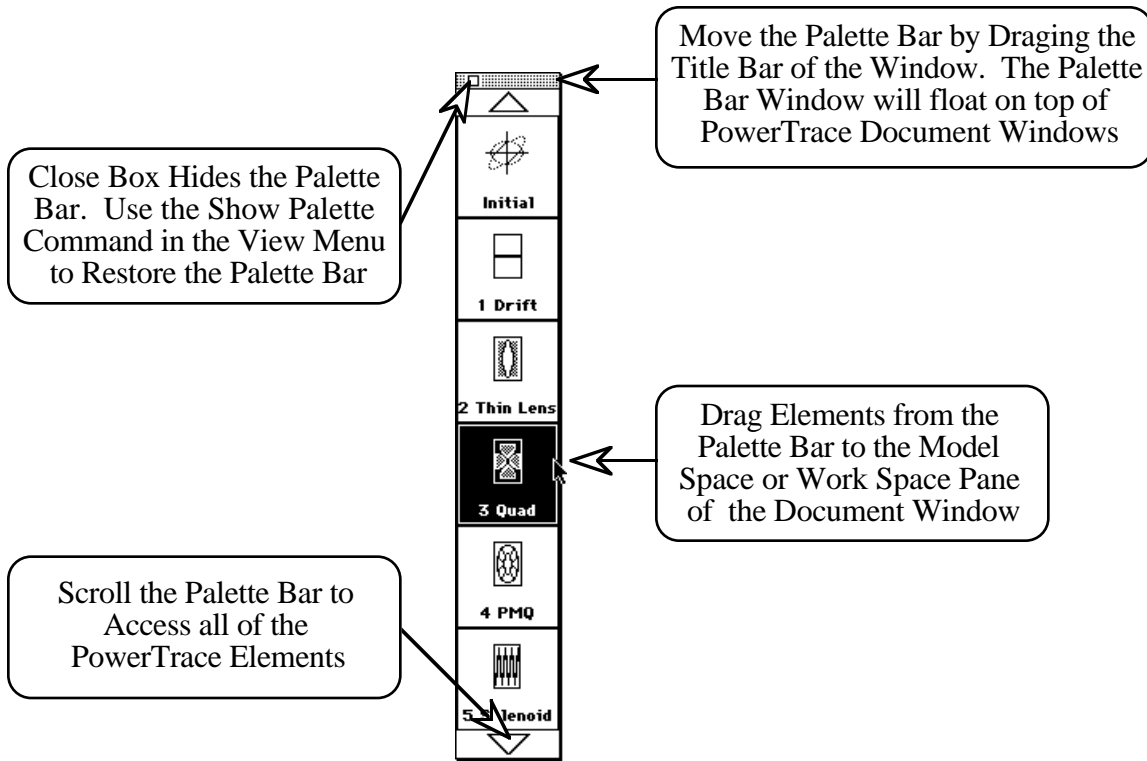

Figure 3-3. PowerTrace Palette Bar of Beamline Elements.
Figure 3-3 illustrates several different features of the Palette Bar. Piece icons are selected from the Palette Bar and dragged to either the Model Space Pane or the Work Space Pane of the Document Window. The Palette Bar contains twenty-two (22) different Piece icons, including sixteen (16) native TRACE 3-D elements, four (4) Custom element positions and two (2) Pieces for the “Initial” and “Final” beam phase space ellipse parameters. These elements are listed in Table 3.1. The PowerTrace Custom elements are discussed in Appendix B “Customizing PowerTrace”.